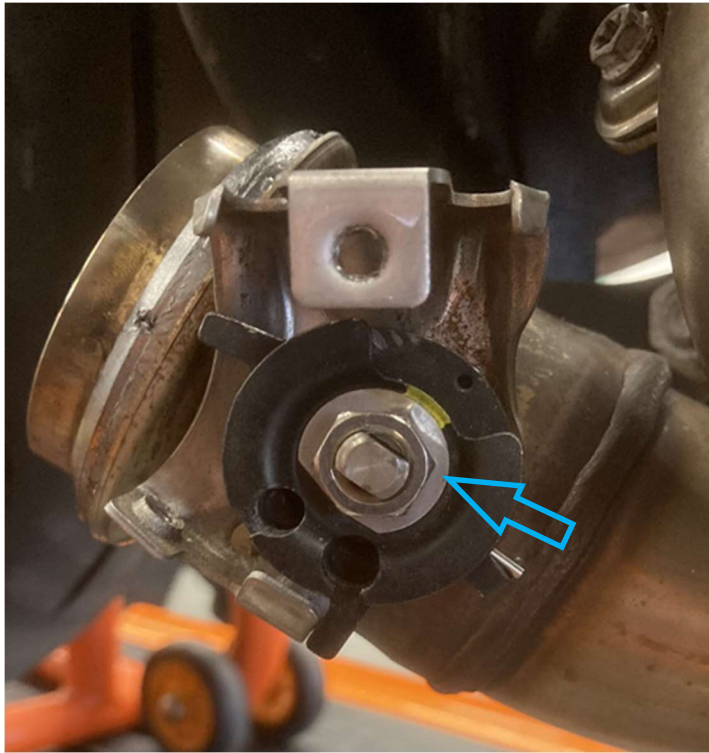

Fig.9 – Locking plate and nut refitted
- Fit the new lock washer and tighten the nut to the specified torque (Table 2), see Fig. 9.